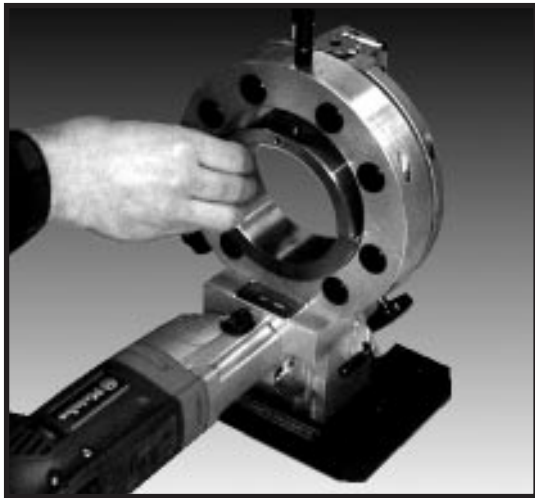

FIGURE 1
2. Place the Shoe Set into the back side of the machine with the size marks facing towards the motor (Figure 1).